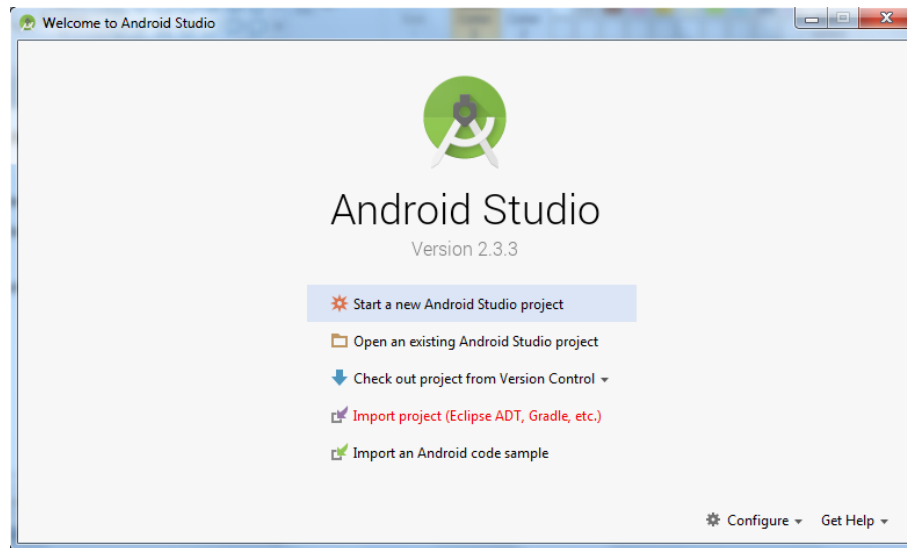

Figure 46, Android Studio Home Screen.
- d. Close out of any open projects and navigate to the Android Studio welcome screen (Figure 46).